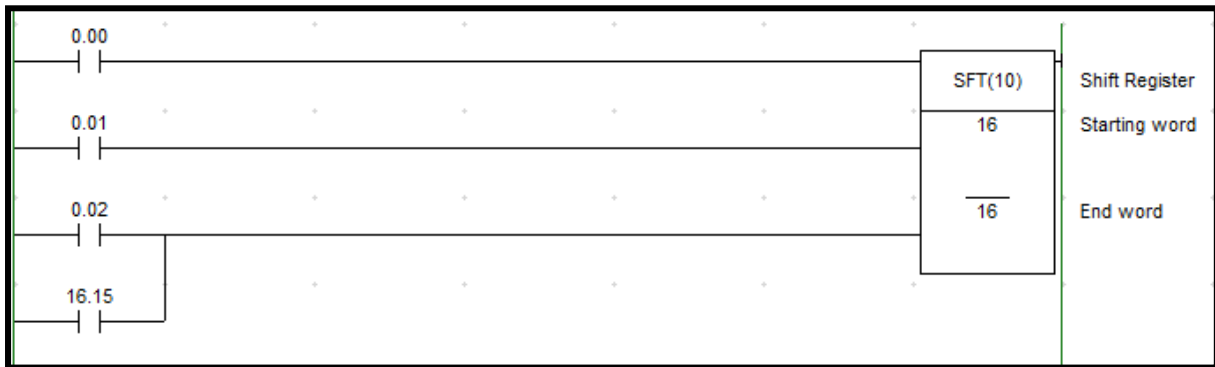

Figure 3 :Ladder diagram.
- (a) **Figure 3** shows a ladder diagram with Shift Register Function. Answer all the following questions.
Based on **Figure 3**,